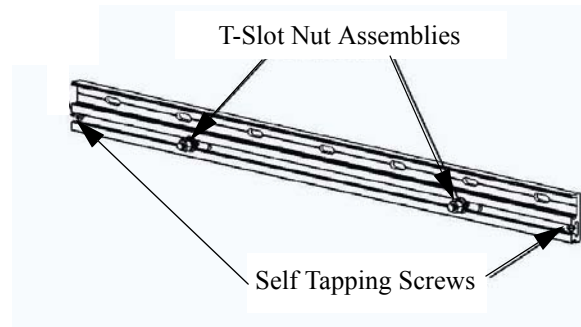

Figure 1. T-Slot Nuts and Self Tapping Screws
2. Insert two T-slot nut assemblies into each of the lateral shift extrusions (Figure 1).